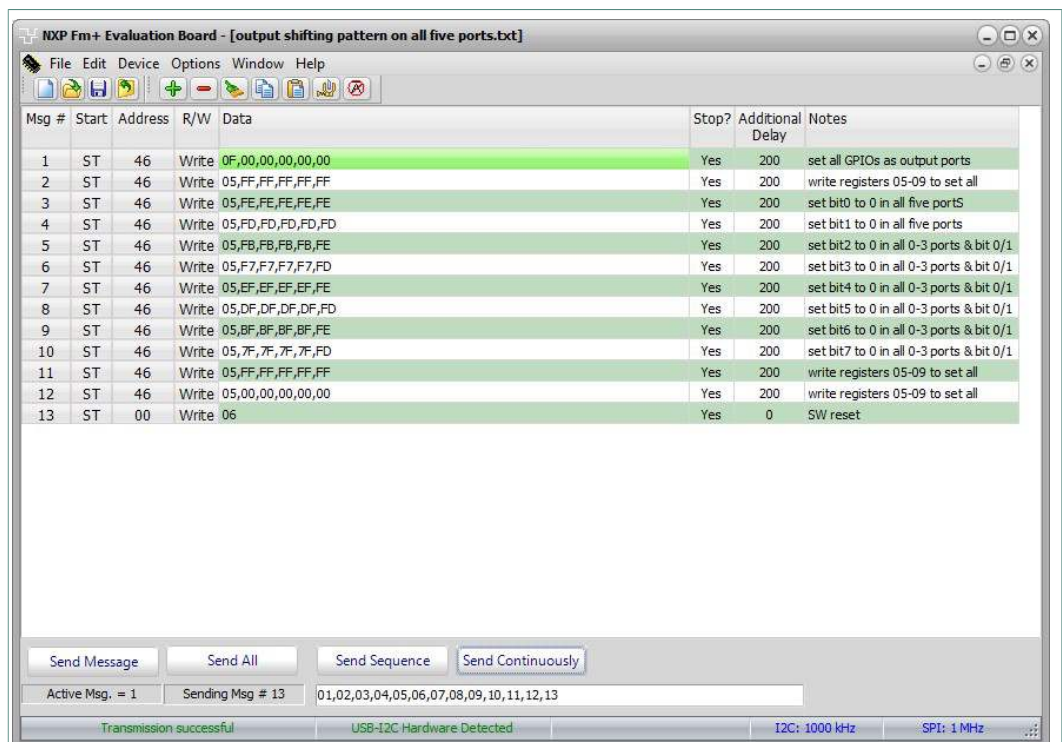

Figure 8. Message data in Expert mode to demo “output shifting pattern on all five ports”
3. After opening the “output shifting pattern on all five ports” text file, the “NXP Fm+ Board GUI” in Expert mode screen is displayed as shown in Figure 8.